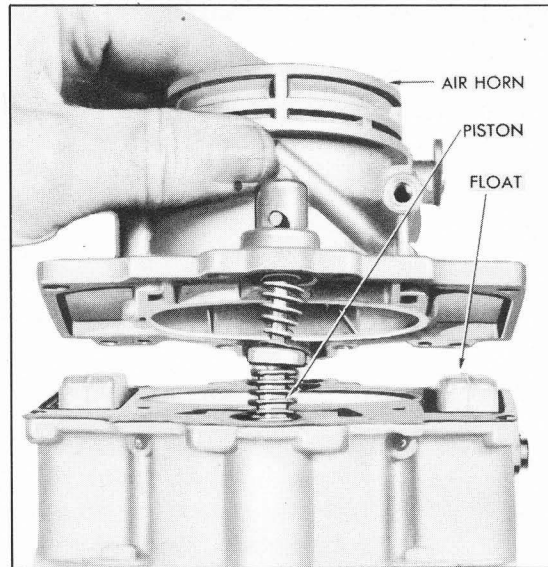

Figure 3-76—Removing Air Horn
5. Remove screws and lift off air horn assembly with float attached. See figure 3-76.